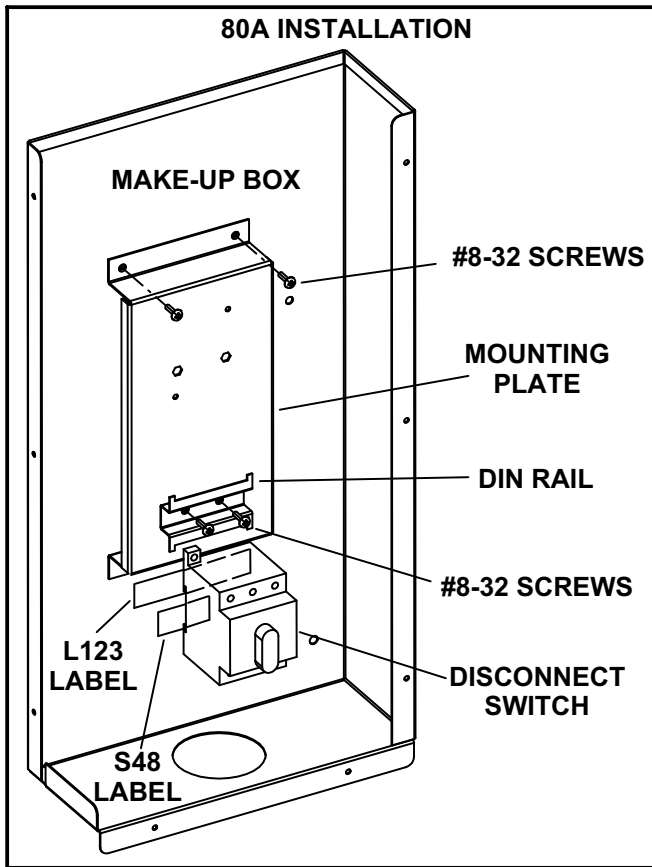

FIGURE 1
Install mounting plate and DIN rail in wiring make-up box as shown in figure 1. Secure with #8 screws. Snap disconnect switch onto DIN rail. Reinstall TB2 on mounting plate above disconnect switch when unit contains electric heat.
- 6- Affix labels to makeup box; refer to appropriate figure 1 or 2.